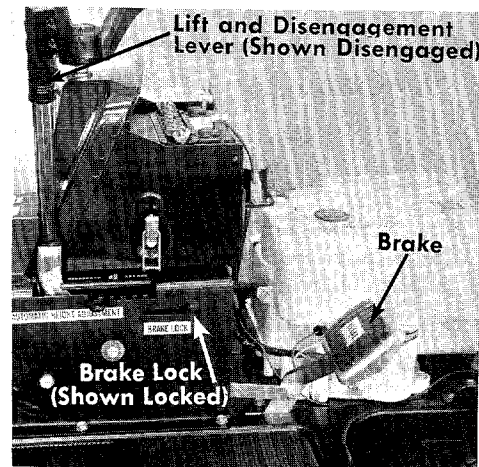

FIGURE 7. RIGHT HAND CONTROLS
c. **Brake.** The brake pedal is located on the right hand side of the mower and is operated by depressing it with your right foot. See figure 7.
d. **Brake Lock.** The brake lock is located on the right hand side of the mower. To lock the brake, depress the brake pedal and lift up the lock button. The pedal will stay depressed. To release, depress the pedal. See figure 7.
i. **Lift and Disengagement Lever.** It is used to raise the cutting deck. Pulling it all the way back and locking it disengages the blades. The engine will not start unless the lift and disengagement lever is in the disengaged position. See figure 7.
Step 3. Place the lift and disengagement lever in the DISENGAGED position. See figure 7.
To stop the blades, move the lift and disengagement lever (figure 7) into the DISENGAGED position. This raises the deck and disengages the blades.